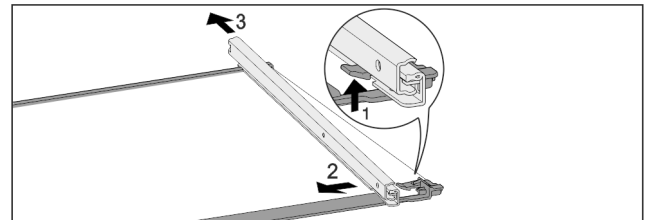

Fig. 58 Glass shelf with rails
- ▶ Push up front click-in hooks. Fig. 58 (1)
- ▶ Move the pull-out rails to the side Fig. 58 (2) and to the rear Fig. 58 (3).